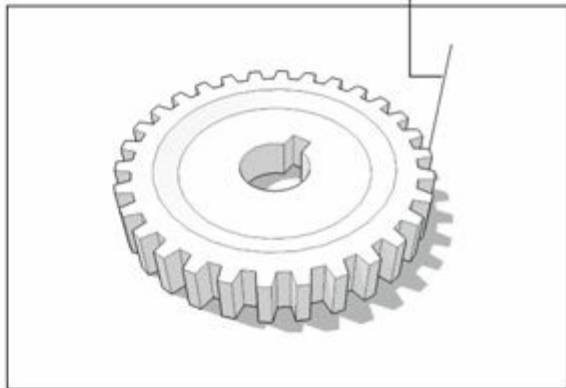

FIGURE 6-25: Solids can't contain any extra edges or faces.
- » **No extra edges or faces allowed.** You wouldn't think that one or two edges or faces would make much of a difference, but it does — solids can't contain *any* extra geometry, period. Figure 6-25 shows some examples of things that can disqualify otherwise completely enclosed shapes from being solids.